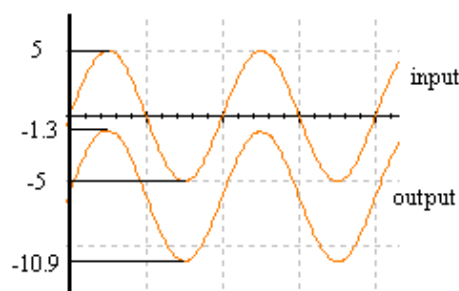

Figure 5.10
8. Construct a clamper circuit to obtain the waveform in figure 5.10. Assume that $V_{\gamma}=0.8$